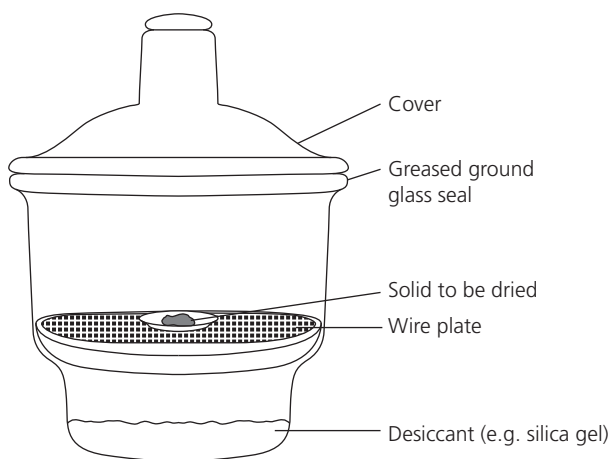

Figure 38 A desiccator
- 6 Dry by sucking air over the crystals in the Buchner flask and then in a low-temperature oven. Alternative methods of drying include placing in a **desiccator** with a drying agent (Figure 38).